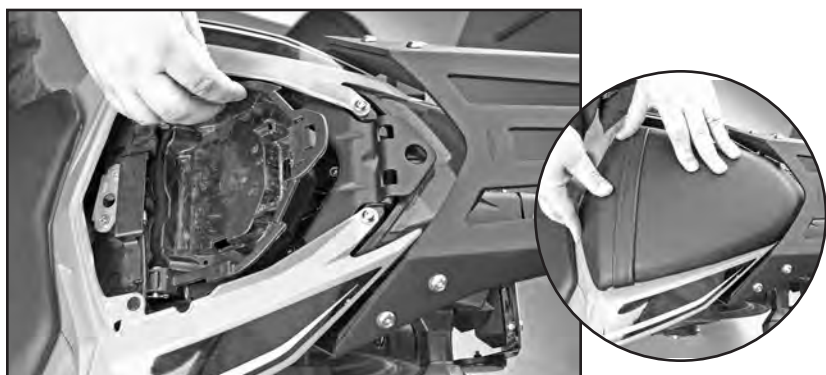

Figure 8
4. Re-install tray and seat. Figure 8